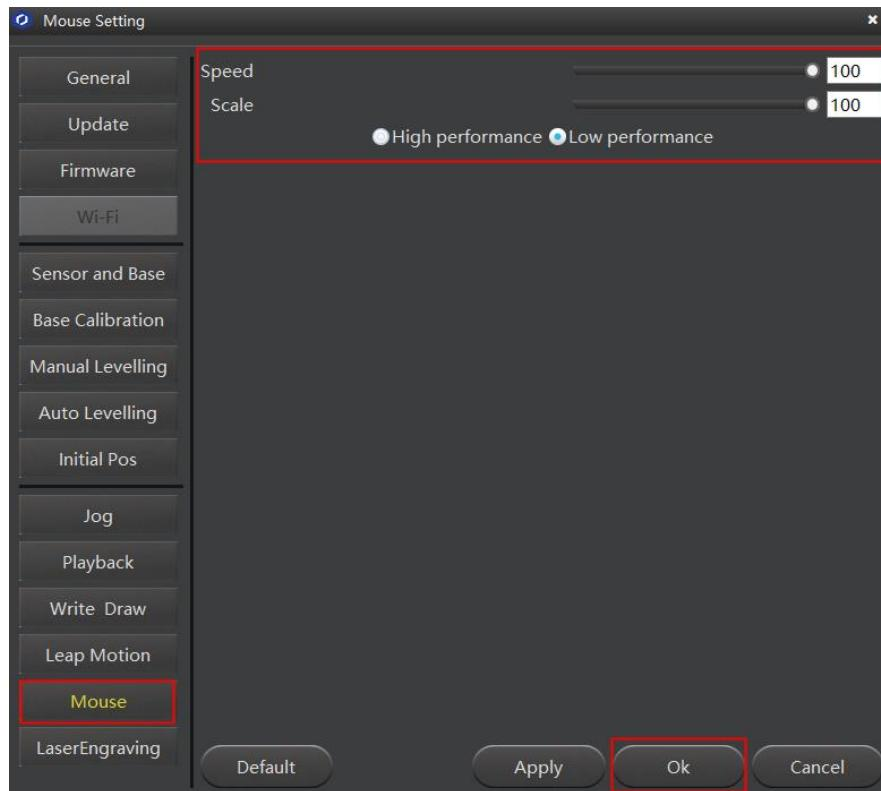

Figure 5.101 Set the parameters of mouse control
**Step 3** Click **Setting > Mouse**, as shown in Figure 5.101. Set the parameters. For details about the parameters, please see Table 5.14.